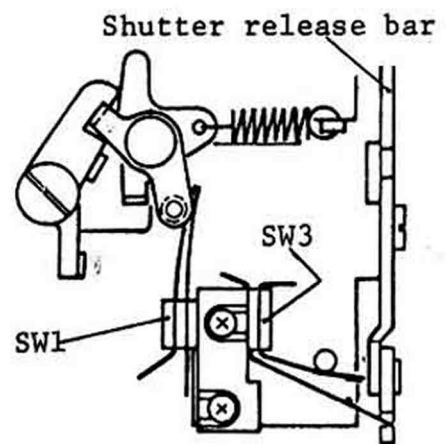

Fig. 60
- 2) While depressing the shutter release button, the SW3 is OFF by the shutter release bar as shown in Fig. 60.